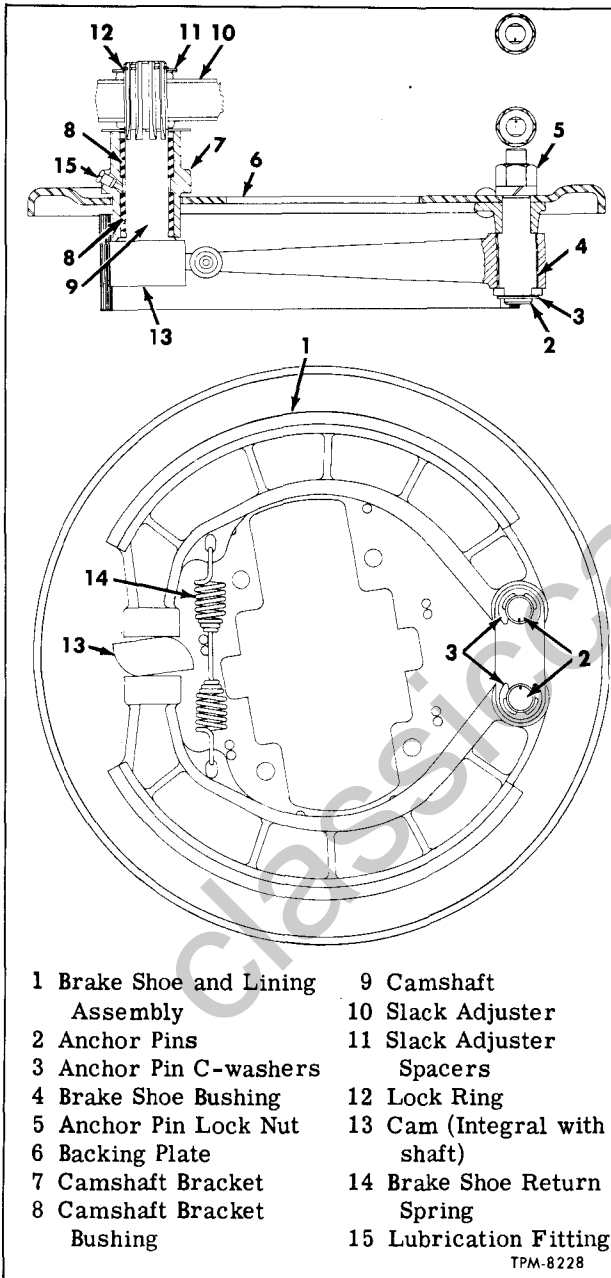

Figure 21—Front Brake Assembly (Rockwell)
ROCKWELL BRAKES (Fig. 21)
Models equipped with optional F-160 axle (fig. 21). Front brake shoes are retained on adjustable eccentric type anchor pins by C-washers. Anchor pin ends of shoes are equipped with replaceable bushings. Cam end of each shoe is flame-hardened at surface in contact with cam.
Anchor Pin Adjustment (Fig. 21) (F-160 Axle Only)
1. Loosen anchor pin lock nuts and turn pins to position punch marks as close together as possible as shown in figure 21.